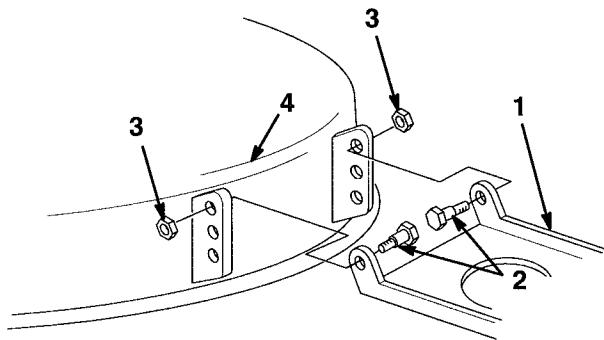

Figure 51
- If the $1/4"$ to $5/8"$ (6.350 mm to 15.875 mm) front slope cannot be achieved by rotating the slope adjusting nut, move the mower pivot mount at the mower (Fig. 51).
- Remove the shoulder bolts and lock nuts from the mower (Fig. 51).
- Lower the mower pivot one hole and install the shoulder bolts and lock nuts (Fig. 51).